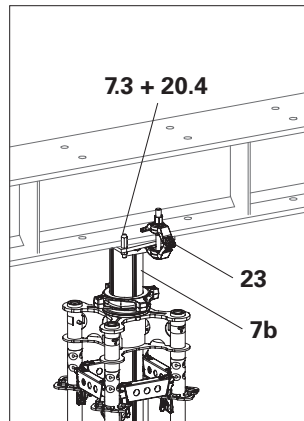

Fig. A6.23a
4. Fix the main beam to the articulated head plate with girder clamps (23). (Fig. A6.23a - A6.23c)
5. Spindle the head spindles (7b) of the intermediate props up to the Main Beam HDT (20).
7. Fix the main beam to the articulated head plate with girder clamps (23). (Fig. A6.23a - A6.23c)